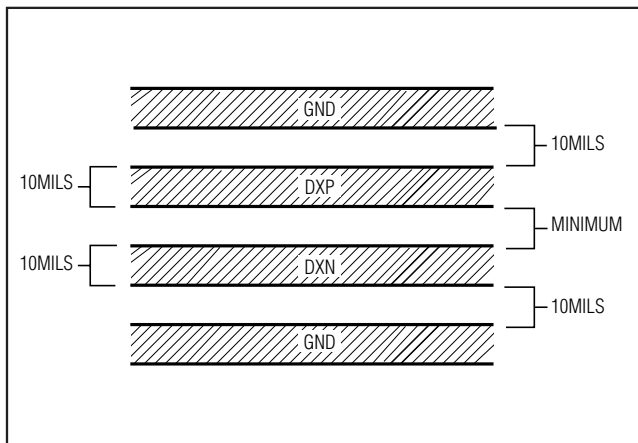

Figure 1. Recommended DXP-DXN PC Traces
- Route the DXP and DXN traces in parallel and in close proximity to each other, away from any higher voltage traces, such as  $+12\text{VDC}$ . Leakage currents from PC board contamination must be dealt with carefully since a  $20\text{M}\Omega$  leakage path from DXP to ground causes about  $+1^{\circ}\text{C}$  error. If high-voltage traces are unavoidable, connect guard traces to GND on either side of the DXP-DXN traces (Figure 1).
- Use wide traces. Narrow traces are more inductive and tend to pick up radiated noise. The 10mil widths and spacings that are recommended in Figure 1 are not absolutely necessary, as they offer only a minor improvement in leakage and noise over narrow traces. Use wider traces when practical.